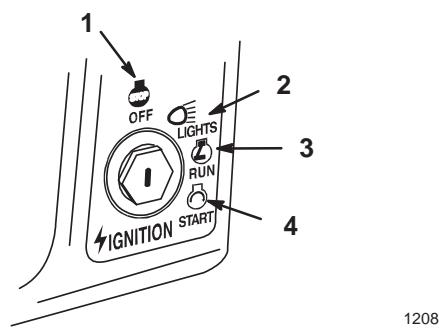

Figure 6
6. Turn the ignition key clockwise and hold it in the ‘‘START’’ position (Fig. 6). When the engine starts, release the key.
2. Turn the ignition key to “OFF” (Fig. 6).